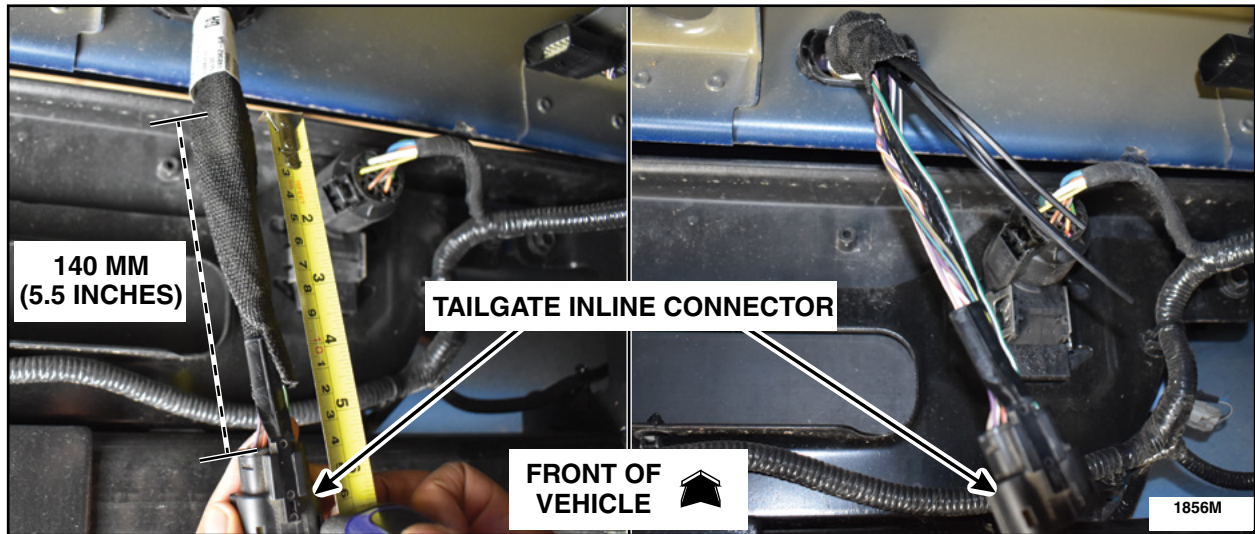

FIGURE 15
18. Remove the tape and slide back the mesh cover to expose 140 mm (5.5 in) of the wires on the female side of the tailgate inline connector. See Figure 15.